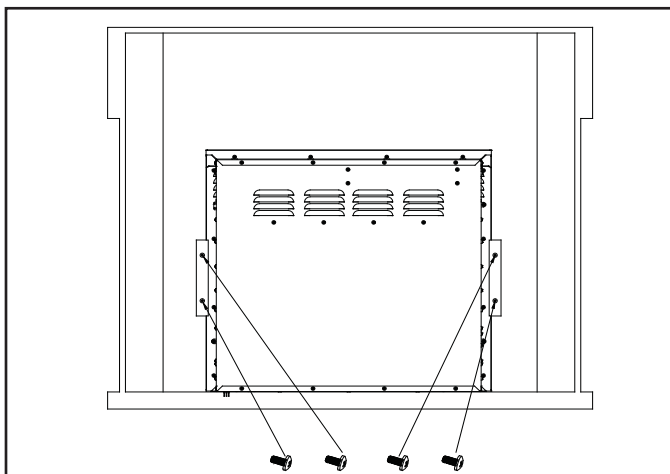

Figure 4.3 Securing Fireplace
3. Secure the fireplace into finished mantel by installing brackets. Line up holes in brackets with holes in mantel and secure each side with two screws. See Figure 4.3.